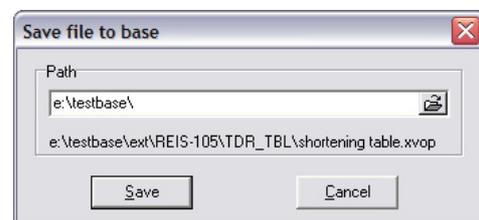

Fig. 5.2 Saving dialog of a file in base
- At point activation “Save in base...” is called a dialog (Fig. 5.2) in which you can enter a way to the catalog with files.